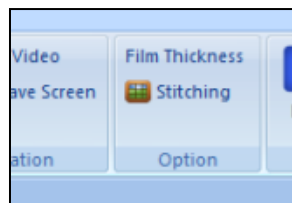
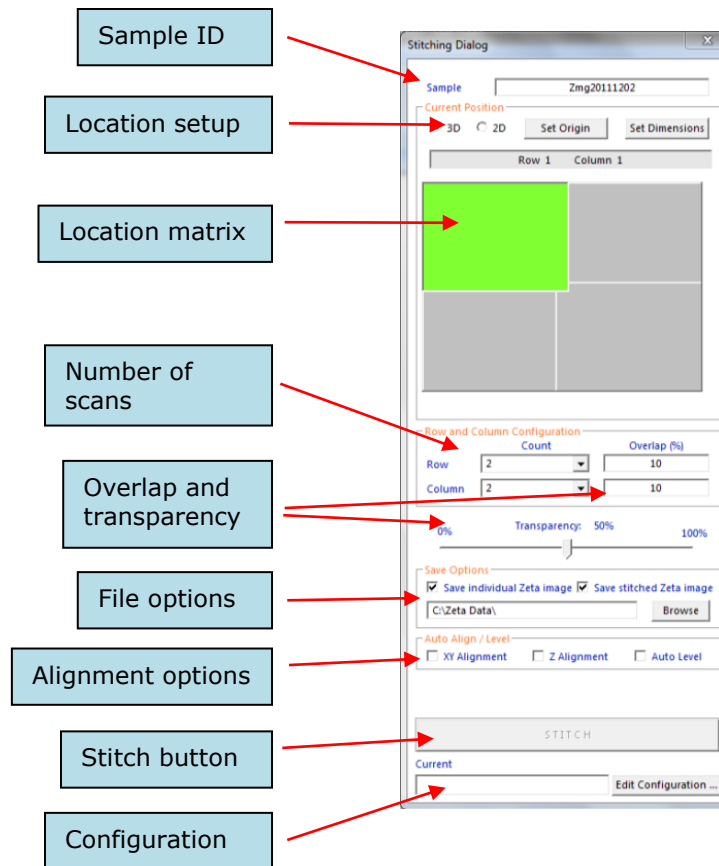

Fig. 34. Stitching option in Live Image tab.
Fig. 35. Stitching dialog box
2. In the *Live Image* tab, *Option* group, click on *Stitching*, as shown in Fig. 34. A new dialog box appears, titled *Stitching Dialog*; it is shown in Fig. 35.
1. Press the **Edit Configuration** button at the bottom right of the *Stitching Dialog*, as shown in Fig. 35.